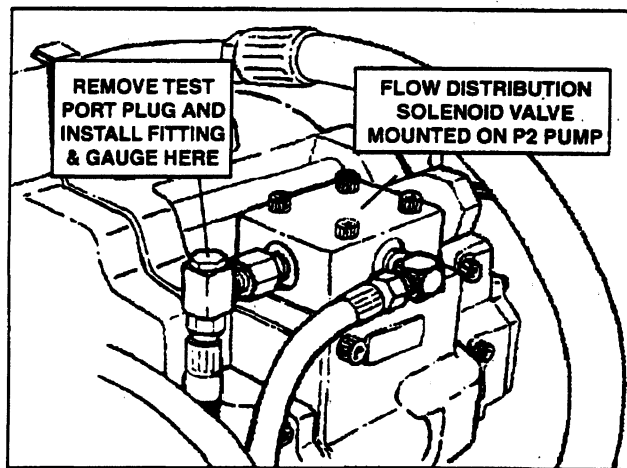

FIGURE 6.27
5. Remove Test Port Plug from Flow Distribution Solenoid Valve. See Figure 6.27.
6. Install fitting and 105kg/cm² (1500psi) pressure gauge into test port. See Figure 6.27.